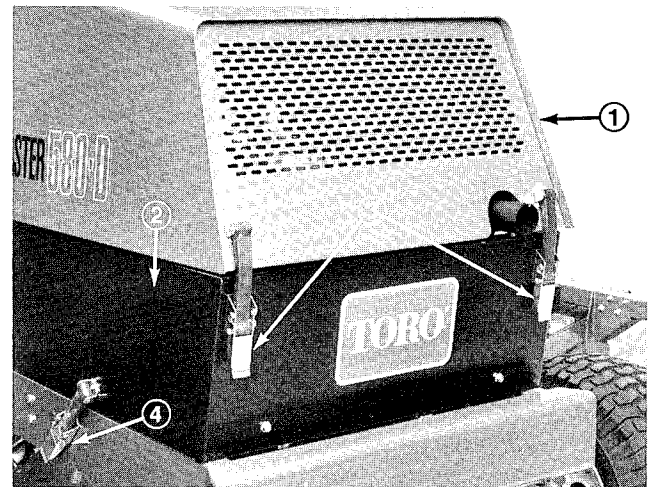

Figure 22
1. Unlatch, raise and prop engine hood open and remove left side panel (Fig. 22).